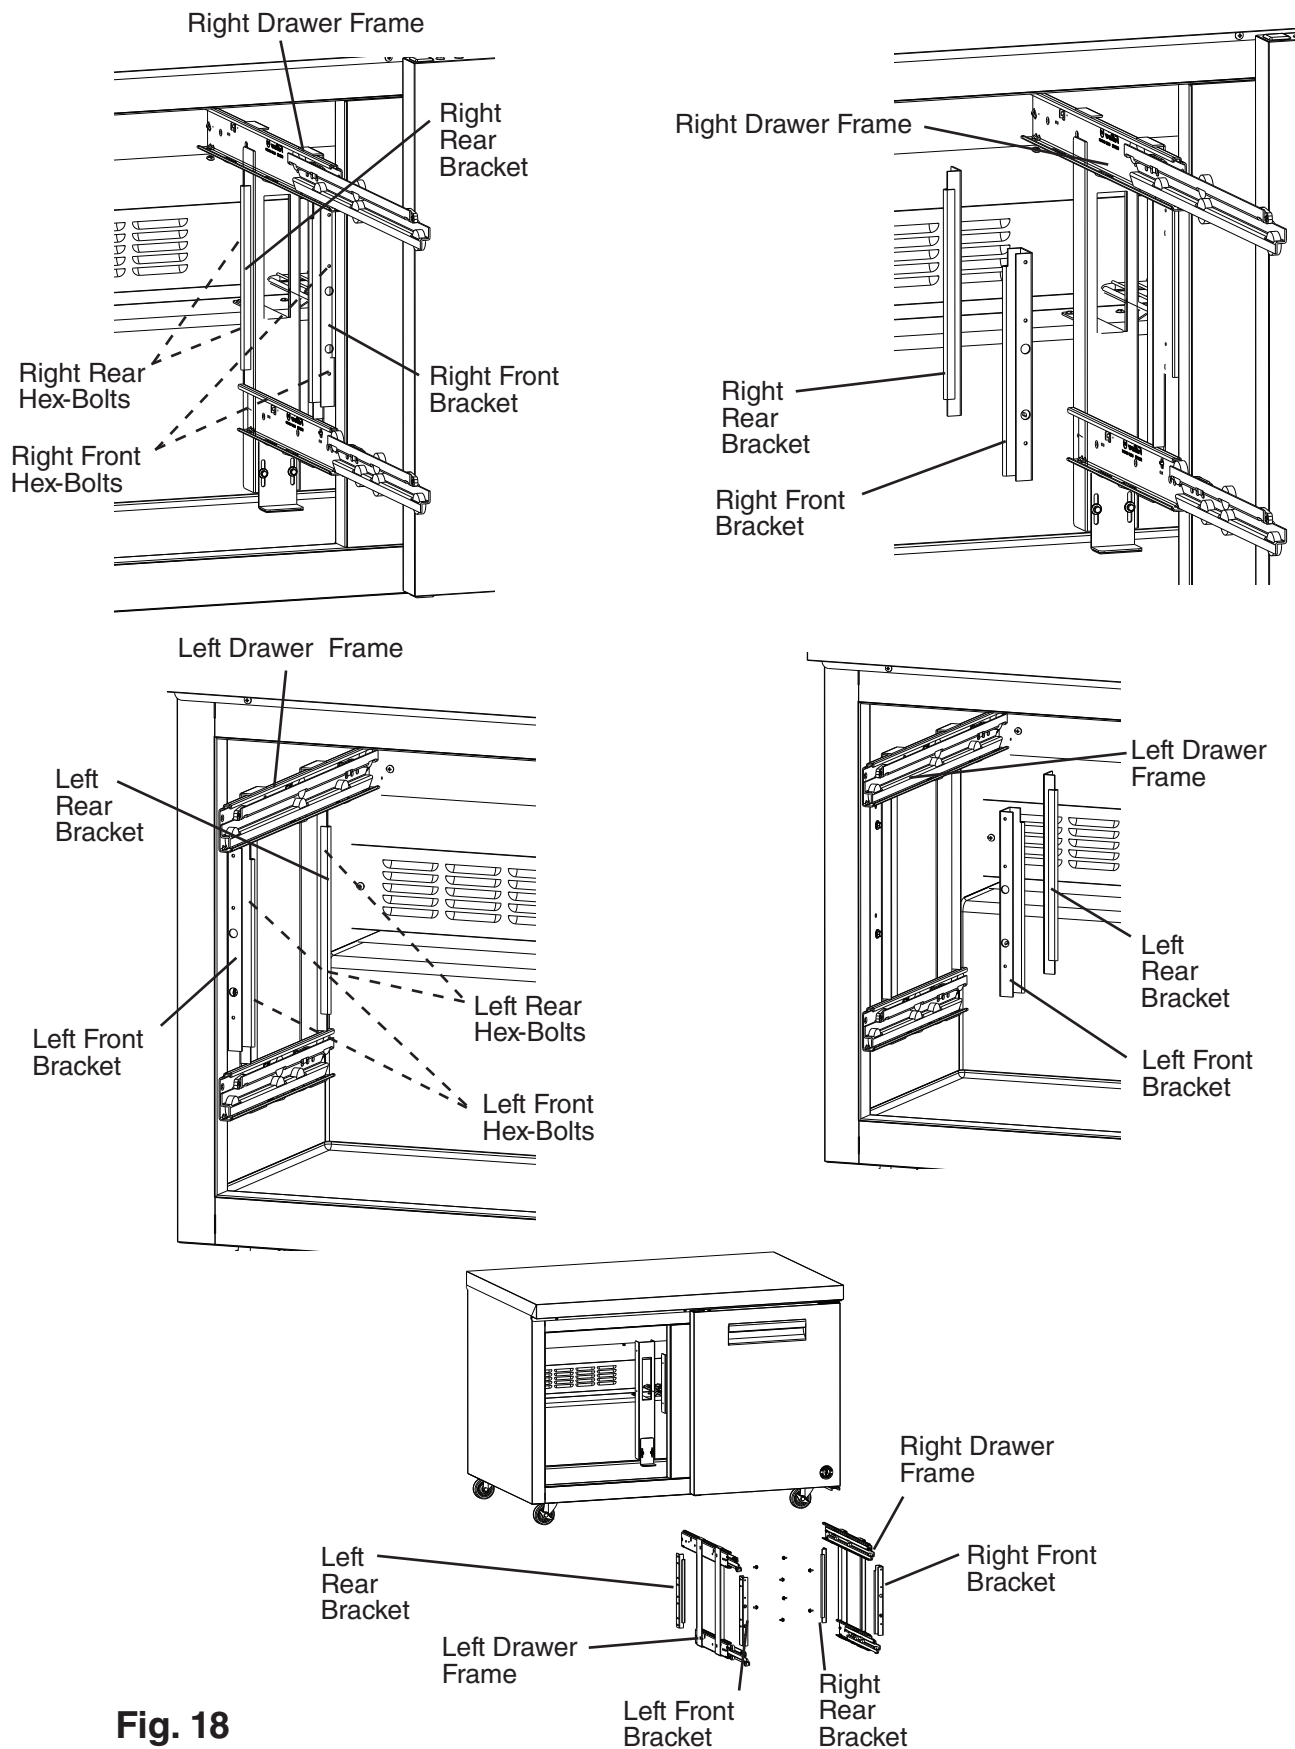

Fig. 18
- 4) Remove the hex-bolts from the 2 right (front and rear) and 2 left (front and rear) brackets (2 hex-bolts per bracket), then remove the right and left drawer frames. See Fig. 18.